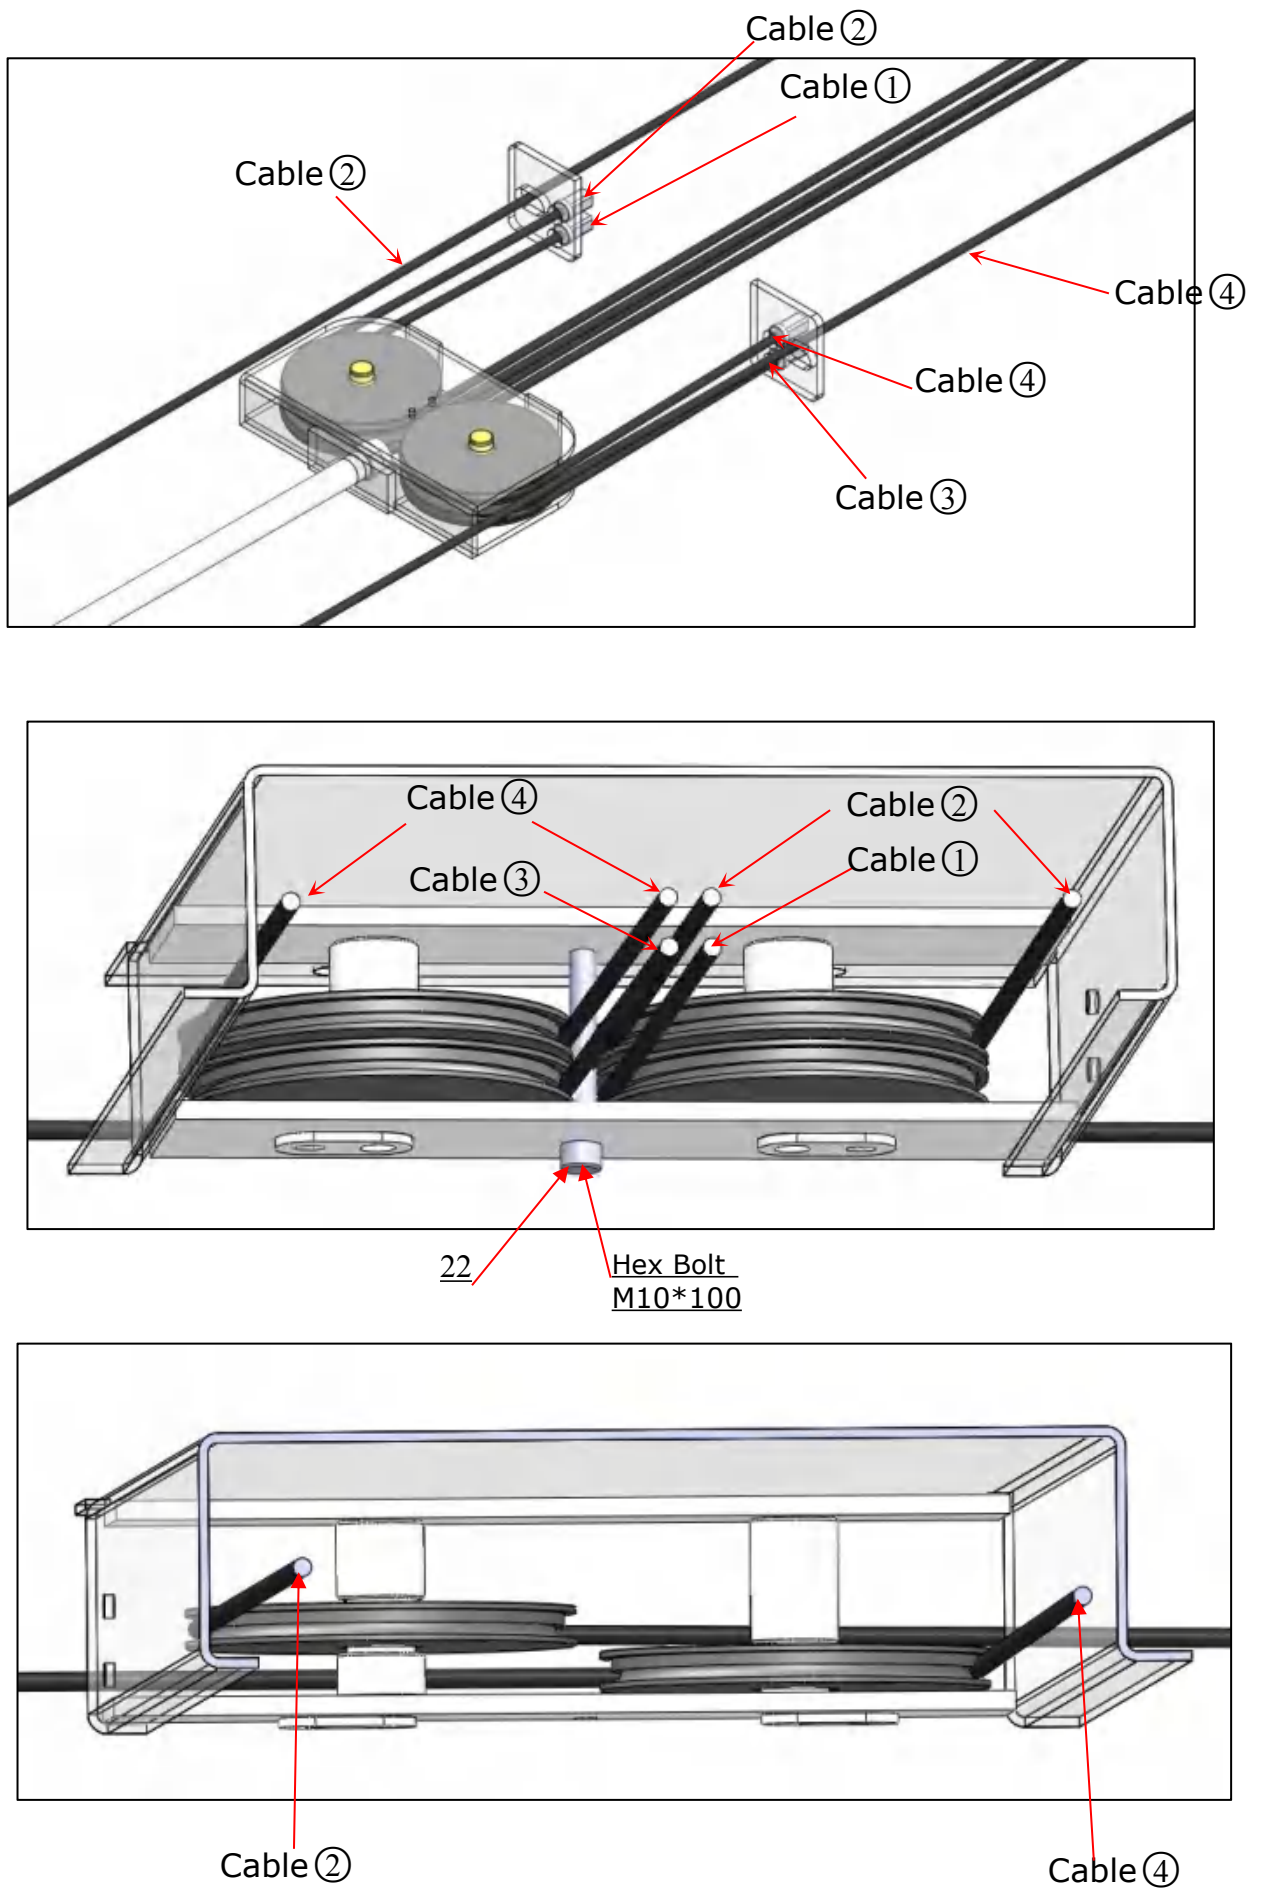

Fig. 28
3. The sketched overview of cables finally installed under platform. (See Fig. 28).